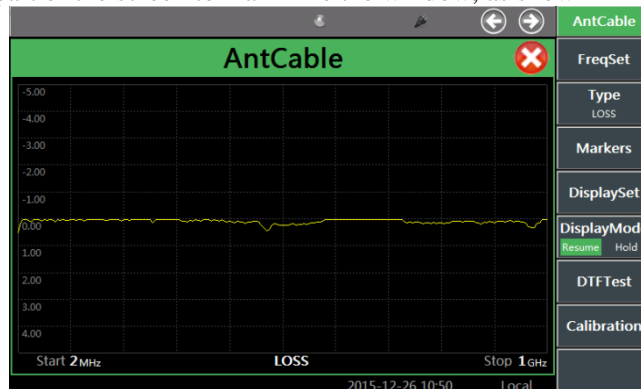

Fig. 4-17 Cable Loss Test Interface
- Window opening: open the cable test window by pressing the [Cable] hard key or pressing the [Measurement] hard key and setting the instrument menu. Press the [Full Screen] hard key in the lower part of the screen to maximize the window, as shown in Fig. 4-17.
- Menu calling: click the touch screen, select the cable test as the current active window, and the corresponding menu will be displayed in the right side of the window, as shown in Fig. 4-17.